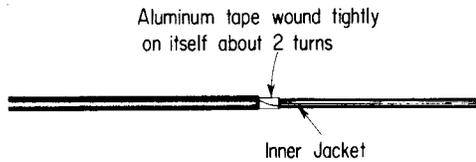

Fig. 9 – Wrap Aluminum Tape on Itself
2.13 The termination of B Service Wire in a D Cable Closure is described in Part 5 of Section 631-600-203 (See Figs. 9, 10, and 11).
4.03 Wrap the aluminum tape tightly on itself at end of outer jacket about two turns and cut off remainder, as shown in Fig. 9.